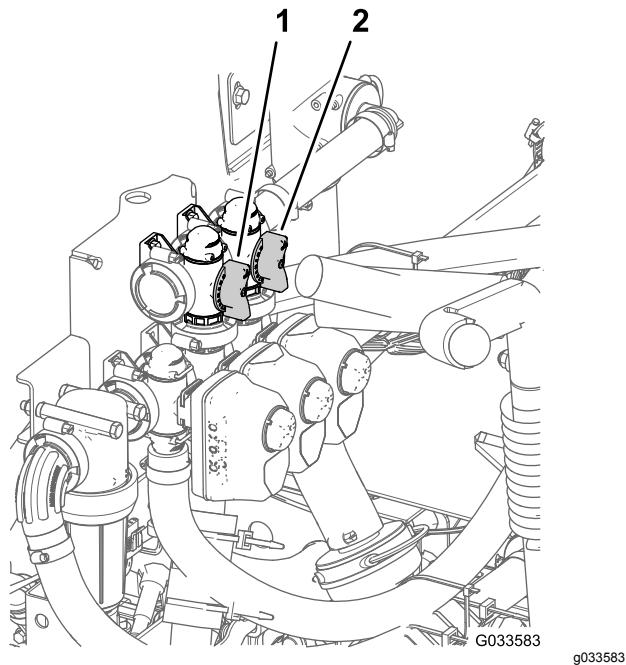

Figure 86
11. Adjust the agitation bypass valve (Figure 86) on the backside of the agitation valve until the pressure reading on the gauge is 6.9 bar (100 psi).
8. Adjust the master-boom bypass handle to control the amount of agitation occurring in the tank (Figure 86).